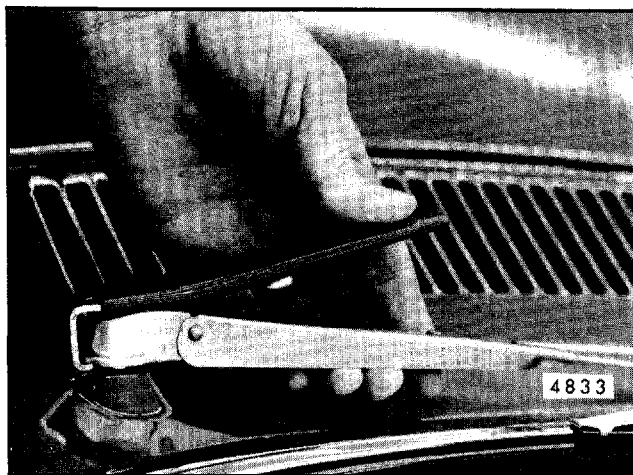

Fig. 2-36-Wiper Arm Removal Tool J-8966 (or Equivalent)
2. Use tool J-8966 or equivalent (Fig. 2-36), and lift arms off transmission shaft.